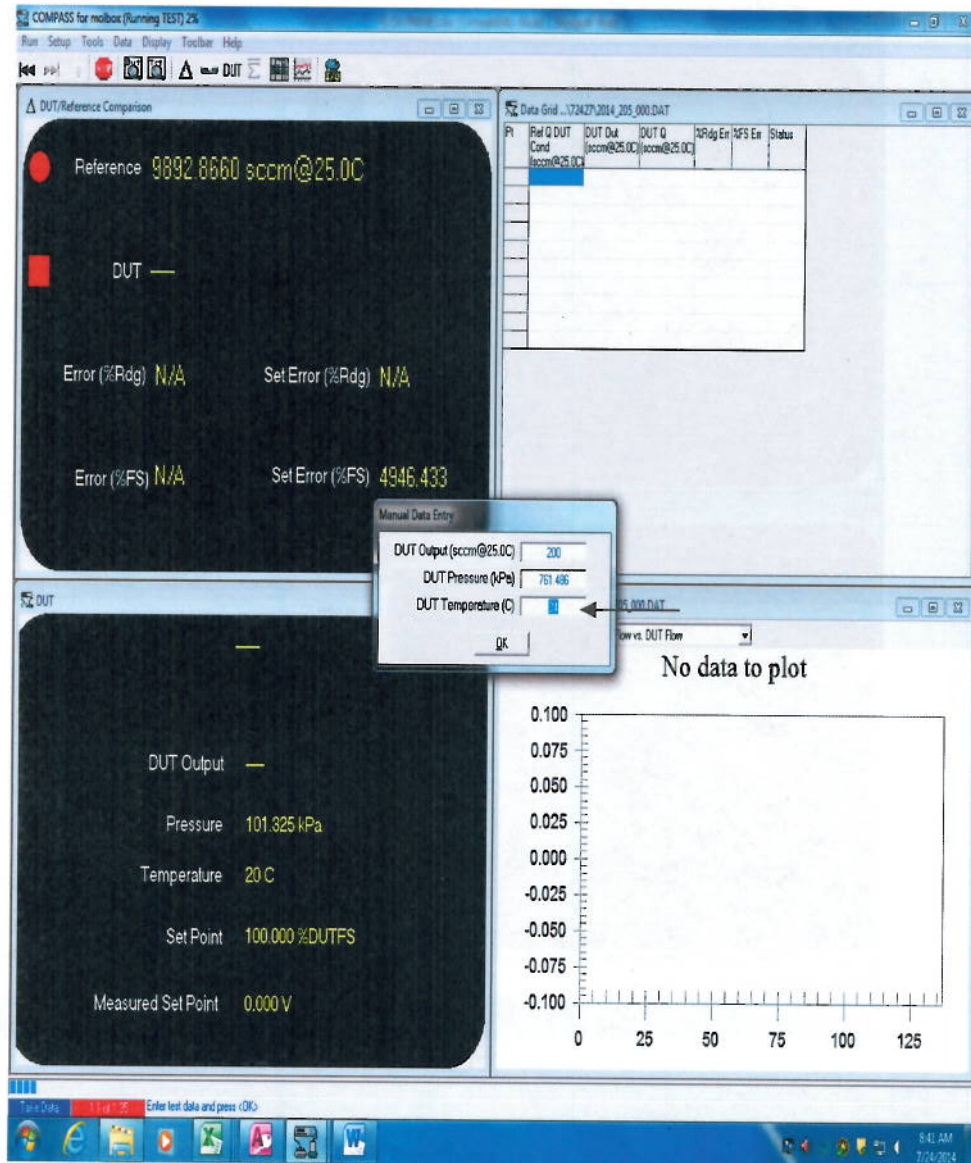

Figure 14
- 12.3.13 Enter the room temperature (located on the north wall of flow room) into the "DUT Temperature (C)" text box. See Figure 14.